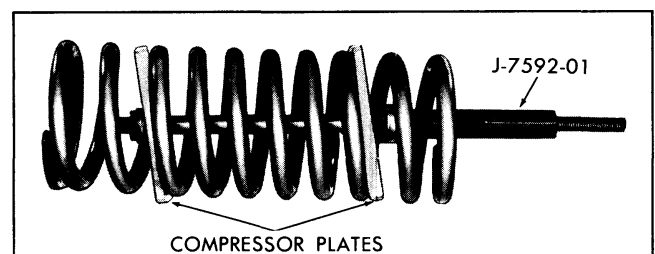

Fig. 3-18 Compressor J-7592 Inserted in Front Coil Spring
6. Install spring compressor J-7592-01 (Fig. 3-18).
NOTE: Plates must be parallel and radially aligned. Also, center of hole in plates must be aligned with center line of spring (Fig. 3-18).
10. If spring is to be replaced, assemble compressor J-7592 on new spring (Fig. 3-18).